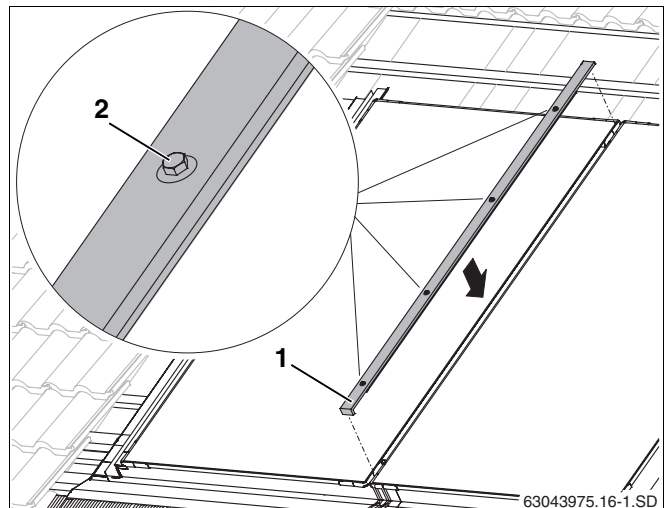

Fig. 49 Middle cover strip
- ▶ Press cover strip (Fig. 49, **Item 1**) with the folded edge facing downwards into the gap between the two collectors and make sure it is centrally positioned.
- ▶ Using size 8 spanner, tighten screws (Fig. 49, **Item 2**) by hand, beginning at the bottom.